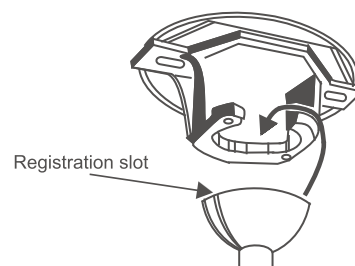

Fig. 7
Step 6. Place the downrod ball into the hanger bracket socket. Rotate the entire assembly until the "Check Tab" has dropped into the "Registration Slot" and seats firmly. (Fig. 7)